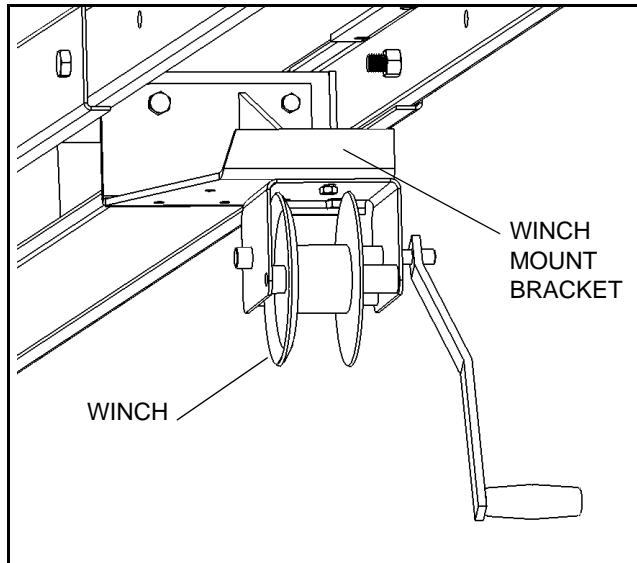

Figure 3.14 Winch Installation
3. Attach winch to mount with three 3/8" x 1" bolts and locknuts. Use the set of holes shown in Figure 3.14.